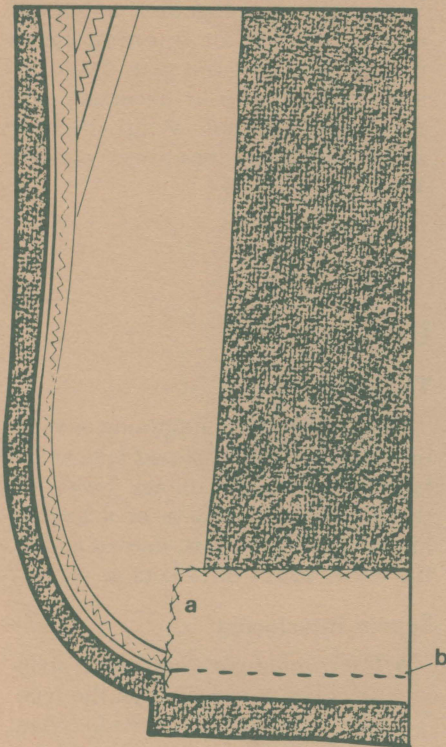

Figure 26. The tailored hem
- For a lined garment, cut a strip of woven interfacing on the true bias 1 inch (2.5 cm) wider than the hem allowance. (If using a stable nonwoven interfacing, disregard the grain. For nonwoven interfacing with one-way stretch, follow the grain indicated by the manufacturer.) For an unlined garment, cut the interfacing $\frac{1}{2}$ inch (1.3 cm) wider than the hem allowance. In a lined garment, $\frac{1}{2}$ inch (1.3 cm) of the interfacing will extend above the hem for the purpose of having less bulk in that area and to make the hemline less obvious. For unlined garments, the edges will be even for aesthetic purposes. Cut strips long enough to circle the sleeve hemline and overlap slightly, and to lap slightly over the front interfacing at the lower edge (Figure 26, see point A).
- Place the interfacing strip on the wrong side of the garment so it extends $\frac{1}{2}$ inch (1.3 cm) below the hem line fold. Baste along the hemline (Figure 26, see point B).